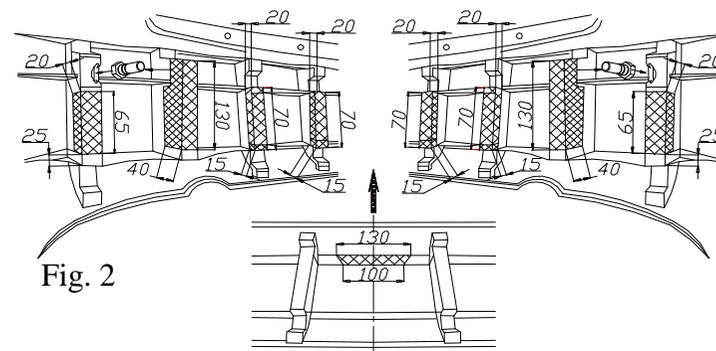

Fig. 2
2. Cut out inside fragments of the bumper according to figure 2.
3. Put main bar of the towbar (pos. 1) into chassis members and fix by bolts M10x35mm (pos. 6), use big washers (pos. 8).
5. Fix body of the automat (pos. 4) and the socket plate (pos. 3) using bolts M12x25mm (pos. 5) from accessories. Place tow-ball (pos. 2) according to supplied instruction.